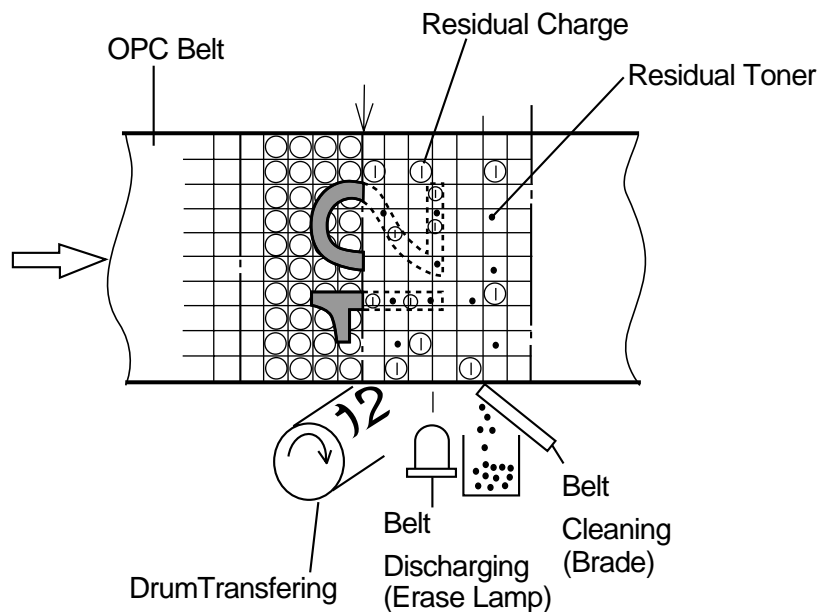

Fig.4-17
(2). Process of First Transfer (Fig.4-17)
- ①. OPC belt that has been through the development process rotates as contacting and synchronizing with the transfer drum.
- ②. OPC belt has been biased to the potential of $-CBV(V)$. Potential of the transfer drum is nearly GND.
- ③. Toner on the OPC belt is moved onto the transfer drum due to the difference of potential between the OPC belt and transfer drum.
- ④. Toner that has been developed by each color is moved from the OPC belt onto the transfer drum, and two color toner image is overlapped on the transfer drum.
- ⑤. Upon completion of the drum transfer process, the toner image is transferred onto a paper in the process of paper transfer.